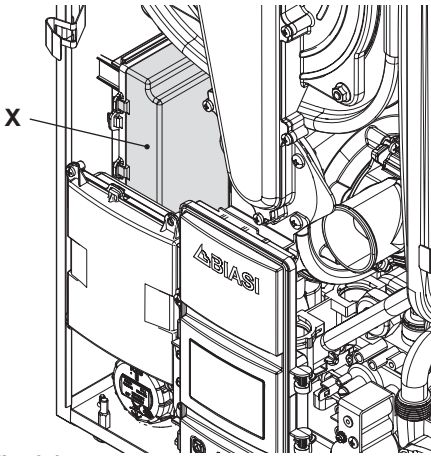

Fig. 6.14
- Identify the terminal block cover lid "X" (Fig. 6.14) and open it.